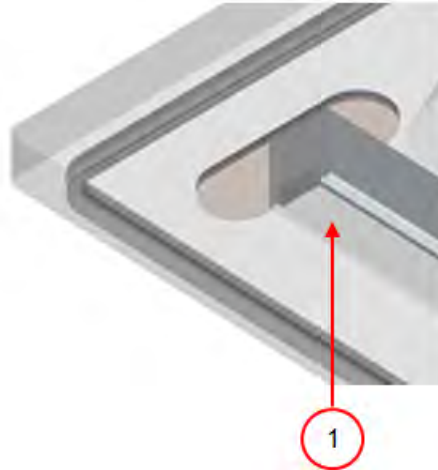

Figure 26: Replacing the Silicone Rubber of the Silicone Holders
1. Pull the old silicone rubber from the holder, see *Figure 26: Replacing the Silicone Rubber of the Silicone Holders* on page 82.